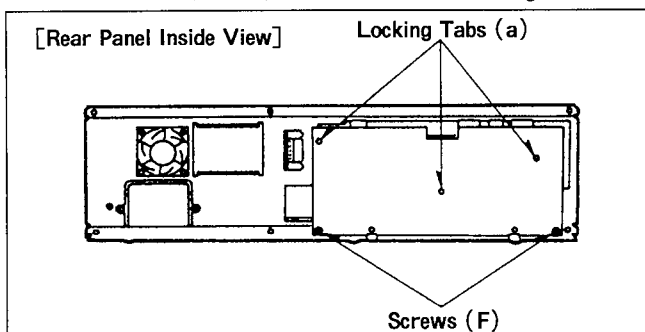

Figure D8
1. Unscrew the 2 screws (F) and unlock the 3 locking tabs (a) on the Rear Amp C.B.A. (Figure D8)